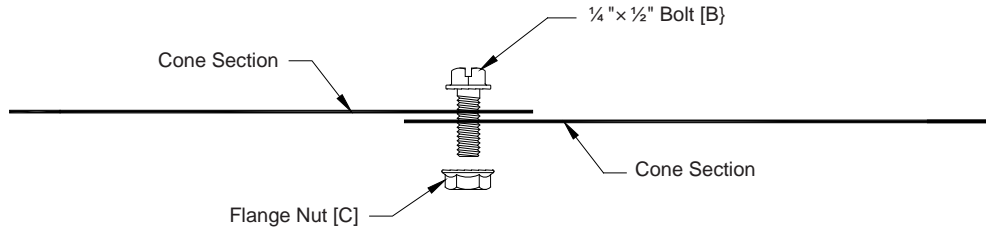

Figure 5
Join cone sections using (12) Bolts [B] and Nuts [C]. Bolt should be installed from the outside and go through two layers of cone. See Figure 5. DO NOT tighten. Nuts should be started only one turn onto bolts at this time. DO NOT place bolts in outside hole at this time.